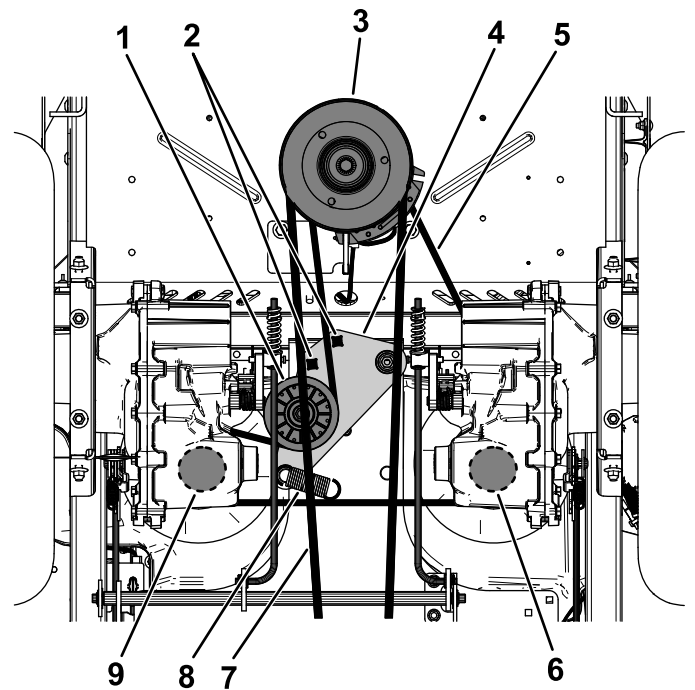

Figure 76
5. Use a 1/2-inch ratchet or breaker bar in one of the square holes in the idler arm to remove tension on the idler spring (Figure 76).
6. Remove the existing belt from the idler pulley, 2 hydraulic-pump-drive pulleys, and engine pulley (Figure 76).
7. Install the new belt around the idler pulley, engine pulley, and 2 hydraulic-pump pulleys (Figure 76).